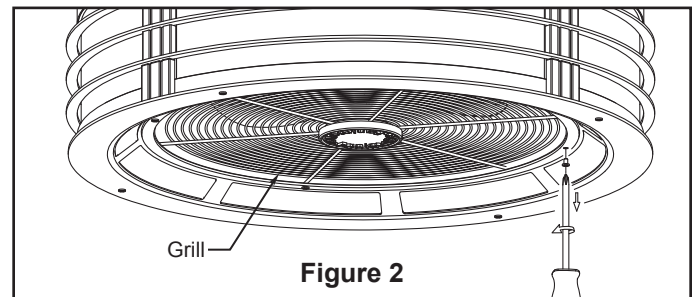

Figure 2
- ☐ 1. Remove the screws and carefully take off the grill in the motor assembly. Retain the screws and the grill for Step 3. (Figure 2)